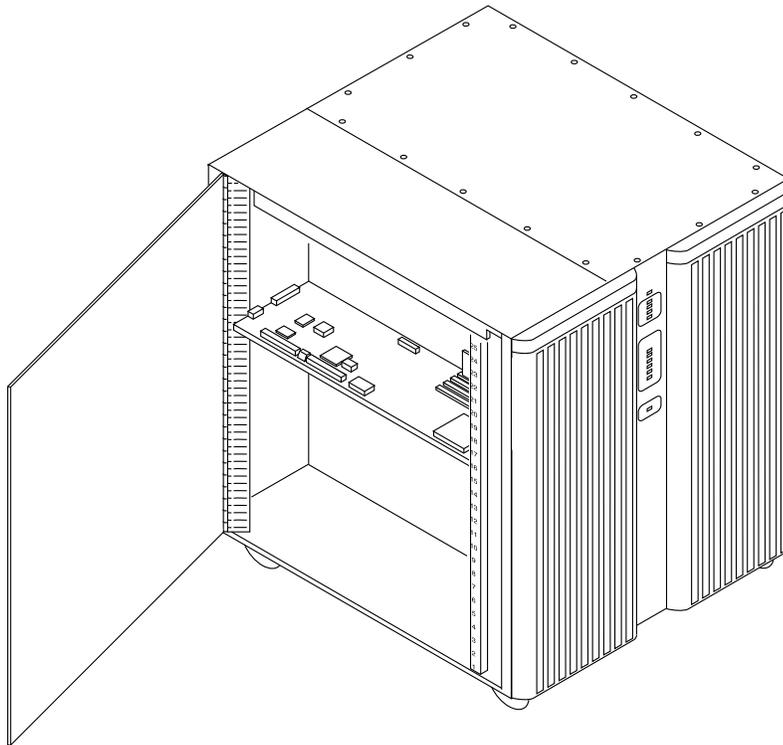

Figure 2-5. MAP/100 – Card Cage Access Door
2. Loosen the eight ¼-turn fasteners around the card cage access door and open the door (Figure 2-5).